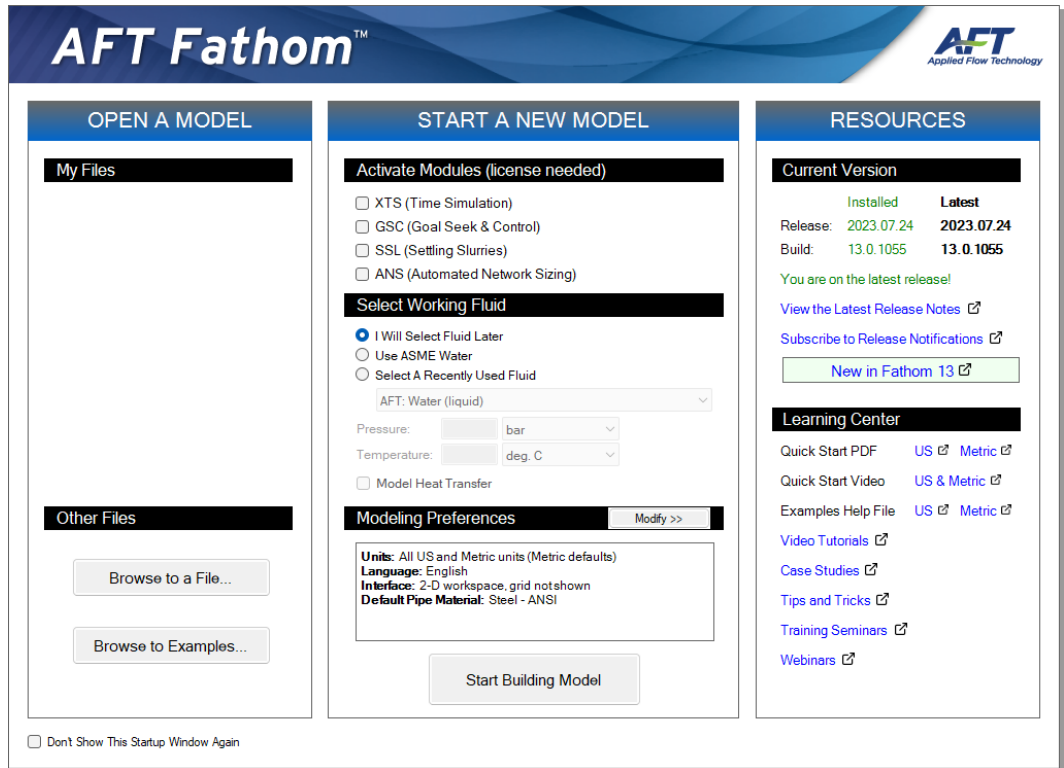
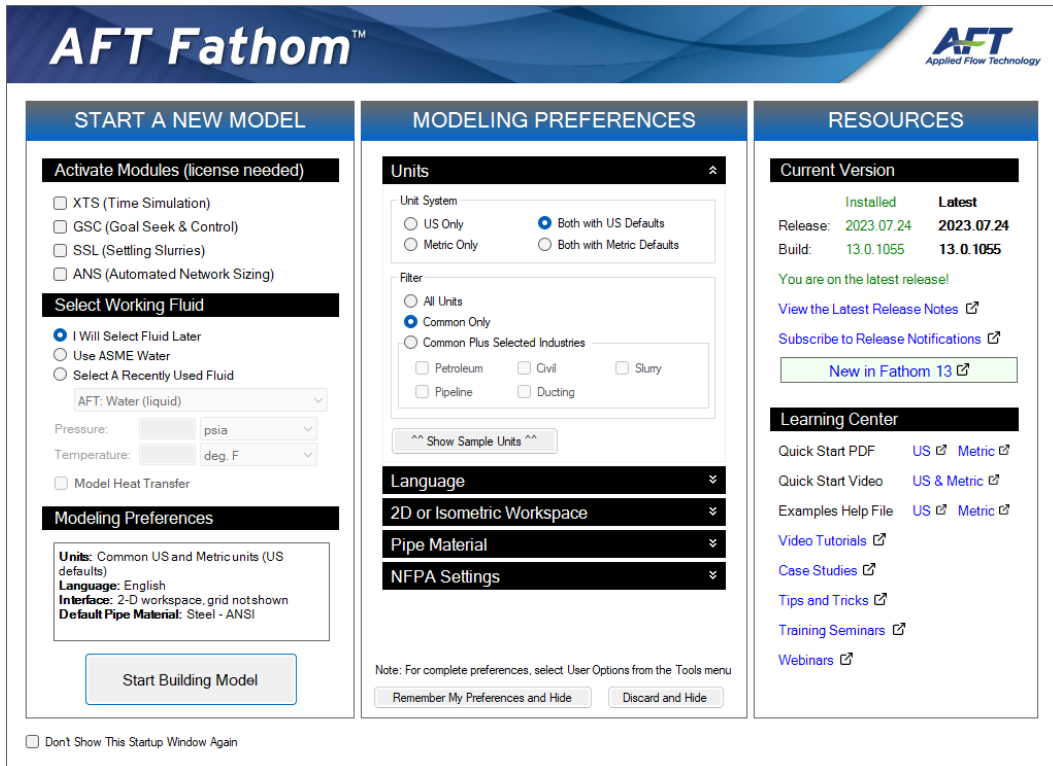

Figure 2.1 Startup Window with Modeling Preferences collapsed
Figure 2.2 Startup Window with Modeling Preferences expanded
As AFT Fathom starts, the AFT Fathom Startup Window appears, as shown in Figure 2.1. This window provides you with several options to choose from before you start building a model.
The first time AFT Fathom launches, Modeling Preferences will be expanded in the middle section of the Startup Window, as shown in Figure 2.2. Otherwise, the Startup Window will appear with Modeling Preferences collapsed, as shown in Figure 2.1.
When collapsed, you can view your current Modeling Preferences at the bottom of the Start a New Model section. To further review or adjust your preferences, click the Modify button (see Figure 2.1).
- **With Modeling Preferences expanded, as in Figure 2.2, select Both with US Defaults under Unit System.** The Filter section can be used to limit the number of units that are shown in the interface.